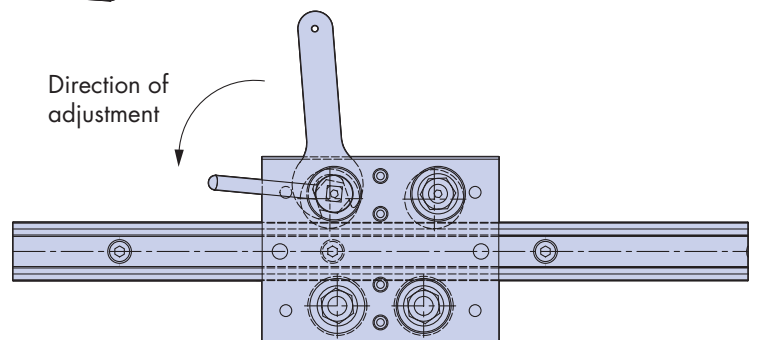

Figure 5.4 Direction of bearing adjustment.
5.4 The offset holes in the carriage for the eccentric bearings necessitate adjustment in the direction of the arrow shown in figure 5.4. For more information please see PRT2 catalogue.